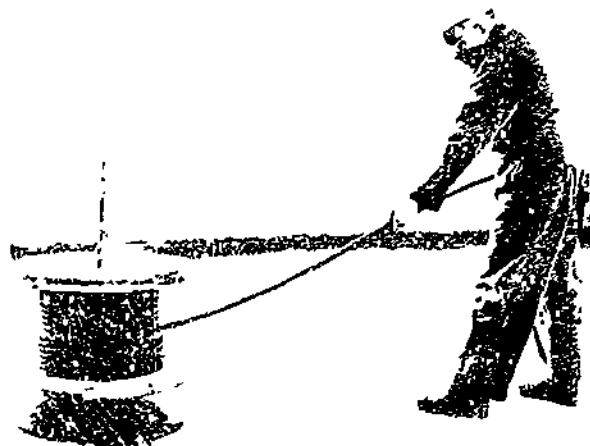

Figure 7-61. Unwinding Wire Rope-Method 3
**Method 3** Upend the reel with one flange on a turntable. Unwind the rope in a similar manner to Method 1. Extra braking must be maintained to keep the rope under sufficient tension so that slack will not accumulate resulting in the rope's dropping below the lower reel-flange or turntable (Figure 7-61).